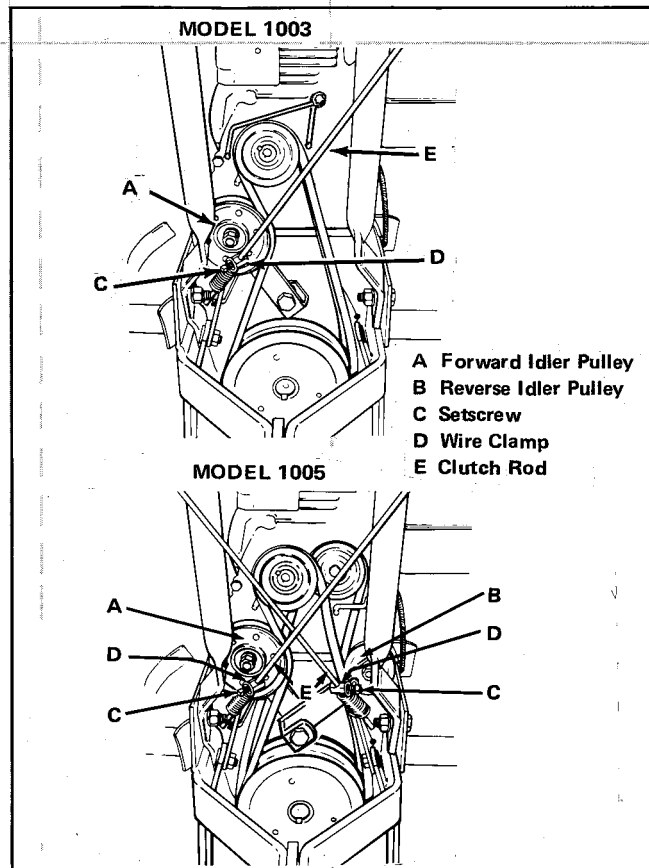

Figure 18. Clutch Adjustment
When a clutch lever is squeezed to engage the clutch, an idler pulley (items A and B, figure 18) moves against and tightens the related belt. Power should then be transferred from the engine pulley to the driven pulley without belt slippage. If a clutch is not disengaging properly or if belt slippage occurs, adjust the clutch as follows:
1. Loosen setscrew (item C, figure 18).